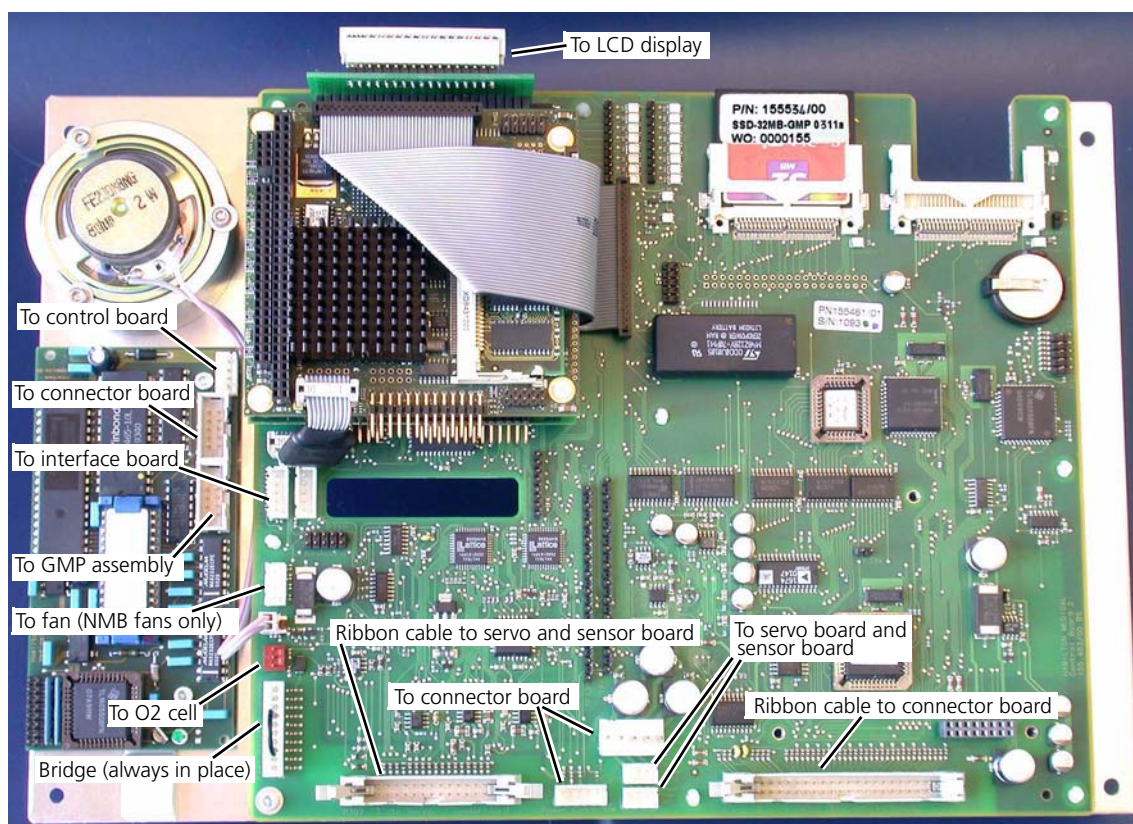
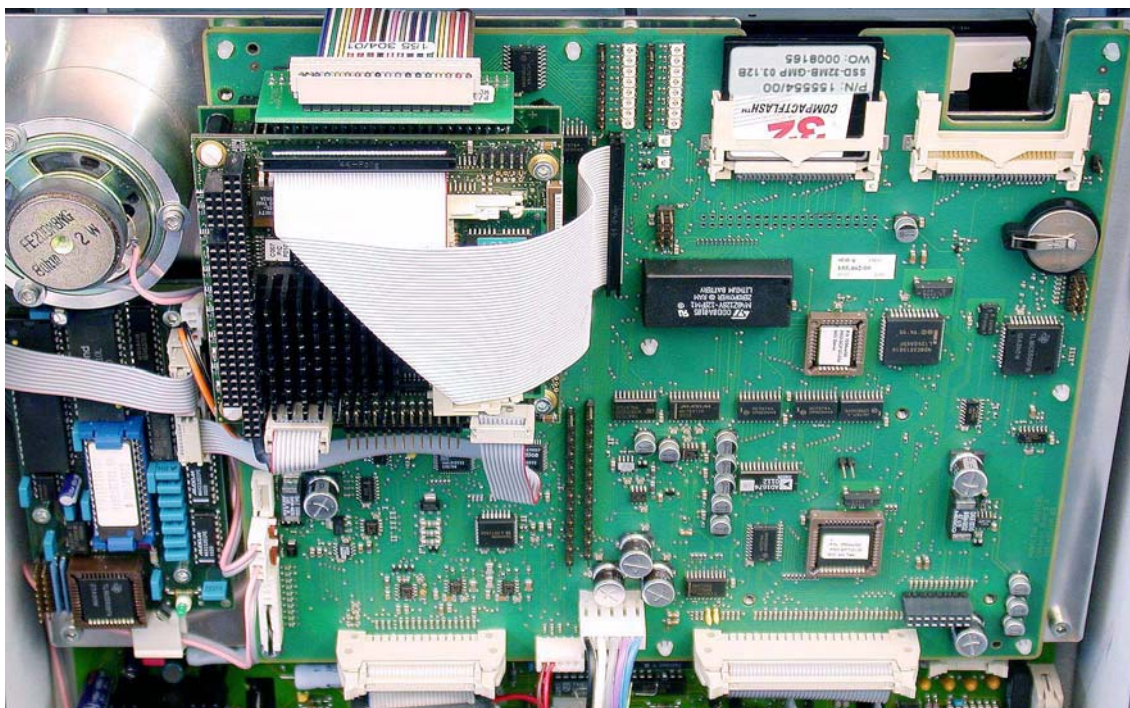

Figure 11-56. Control board PN 155461 connections
Figure 11-57. Control board PN 155461 in GALILEO, with all connections in place
- Make sure that you attach all cables correctly. (Figure 11-56 and Figure 11-57.)
- Make sure that the white plastic bridge is in place on the bottom left-hand corner of the new board. You might have to move it from the old board. (Figure 11-55 and Figure 11-56.)
- The two almost identical cables to the servo board and the sensor board (Figure 11-56) supply power. The longer (PN 155506) is connected to the sensor board, the shorter (PN 155504) to the servo board. You can plug either cable into either of the two sockets on the control board.
Both Figure 11-56 and Figure 11-57 show a revision of control board PN 155461 earlier than Revision 04. There are no microswitches immediately below the GMP assembly, and the latest version of the assembly (GMP CPU module PN 396170 and GMP LCD adapter PN 155563) is not fitted.
Make sure to correctly attach all cables to the control board. This is illustrated in Figure 11-56, *Control board PN 155461 connections* and Figure 11-57, *Control board PN 155461 in GALILEO, with all connections in place*, on page 11-55.